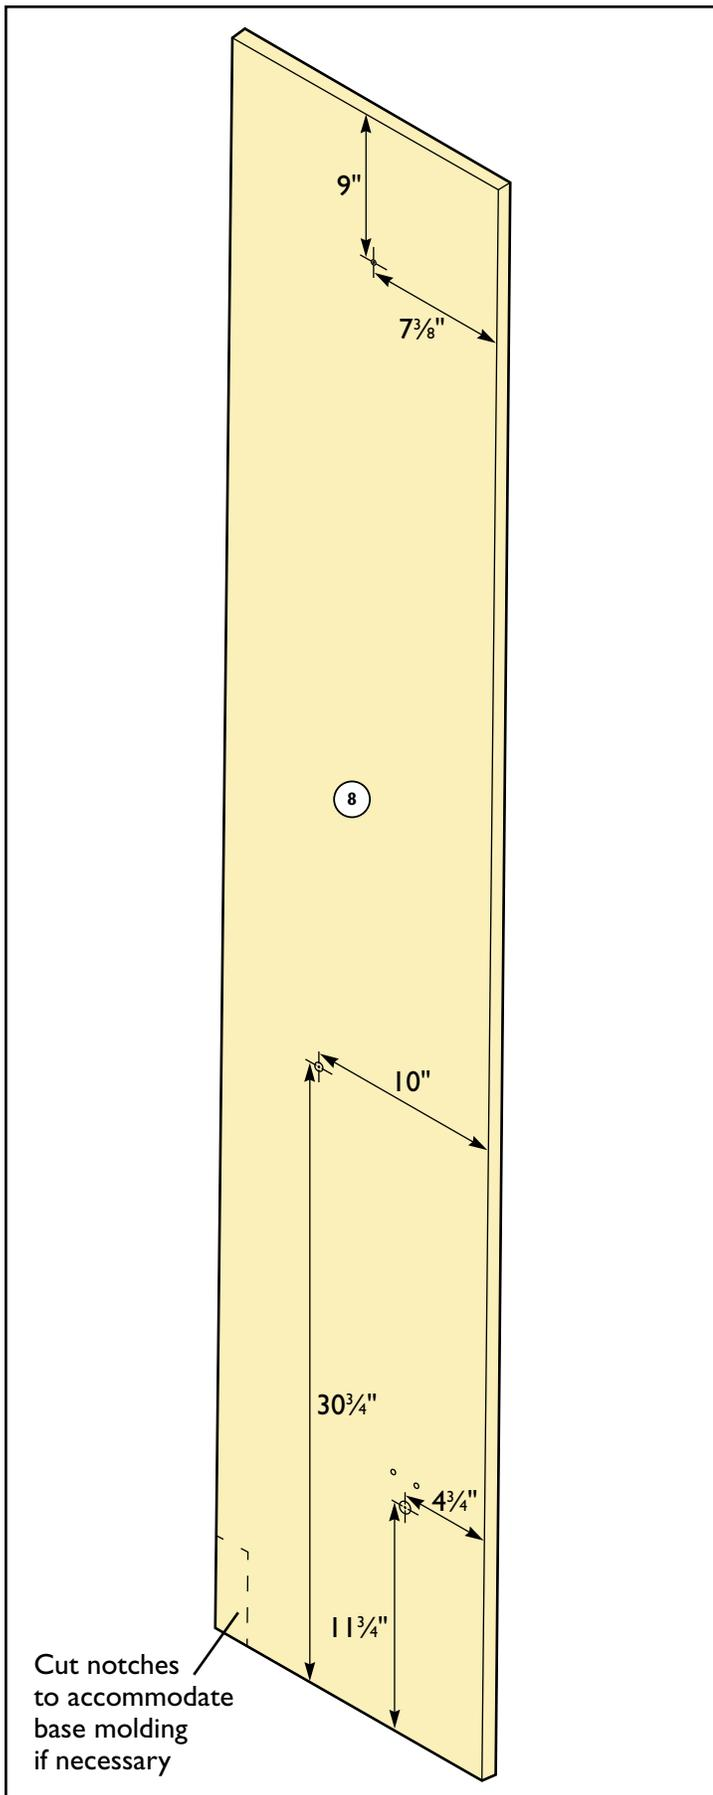

Fig. 9
1. Make a mark 7 3/8" in from the front edge and 9" down from the top edge on the inside face of each Bed Cabinet Verticals (8). **Fig. 9.**
3. On each side, insert the pin on the Bed Stop (30) into that hole, line up the Bed Stop (30) so that the flat is parallel to the edge of the Bed Cabinet Vertical (8) and attach the Bed Stop (30) with a Black Screw (33).
1. Make a mark 10" in from the front edge and $30\frac{3}{4}$ " up from the bottom edge on the inside face of each Bed Cabinet Vertical (8). **Fig. 9.**
3. For each of the Vertical Ball Stud Plates (26), insert the nut on the back side of the plate into the hole and use a square to align the plate.
4. Mark the location of the center screw hole; remove the Vertical Ball Stud Plate (26) and drill a $\frac{1}{4}$ " through hole at this location, using a backer board to avoid tear-out.
5. From the outside face, insert a T-nut (34) in the hole.
6. Realign each Vertical Ball Stud Plate (26) with the hole and secure with a Machine Screw (35) threaded into the T-nut (34). Drive Black Screws (33) into the plate's remaining four holes.
1. Make a mark $4\frac{3}{4}$ " in from the front edge and $11\frac{3}{4}$ " up from the bottom edge on the inside face of each Bed Cabinet Vertical (8). **Fig. 9.**
3. For each Male Metal Pivot (28), insert the short (back) end of the pivot rod into the hole and use a square to align the plate. Mark the locations of the upper two screw holes and remove the Male Metal Pivot (28).
5. From the outside face, insert T-nuts (34) in the holes.
6. Realign the Male Metal Pivot (28) with the holes and secure with Machine Screws (35) threaded into the T-nuts (34). Drive Black Screws (33) into the plate's remaining two holes.